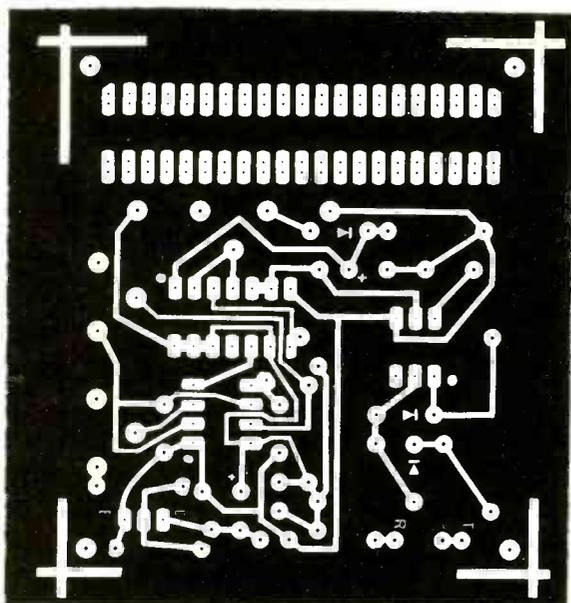

Fig. 6. Etching and drilling guide for pc board.
**Note**—The following is available from BFA Electronics, Box 212, Northfield, OH 44067: Kit of parts for the basic Electronic Ringer project (Figs. 1 and 2) excluding the dynamic speaker, No. ER—Kit, priced at \$25.00 plus \$2.00 postage and handling for U.S.A. Also available separately is an etched and drilled printed-circuit board (Fig. 6), for \$6.00 plus \$1.00 postage and handling for U.S.A. orders. Ohio residents, add state sales tax.